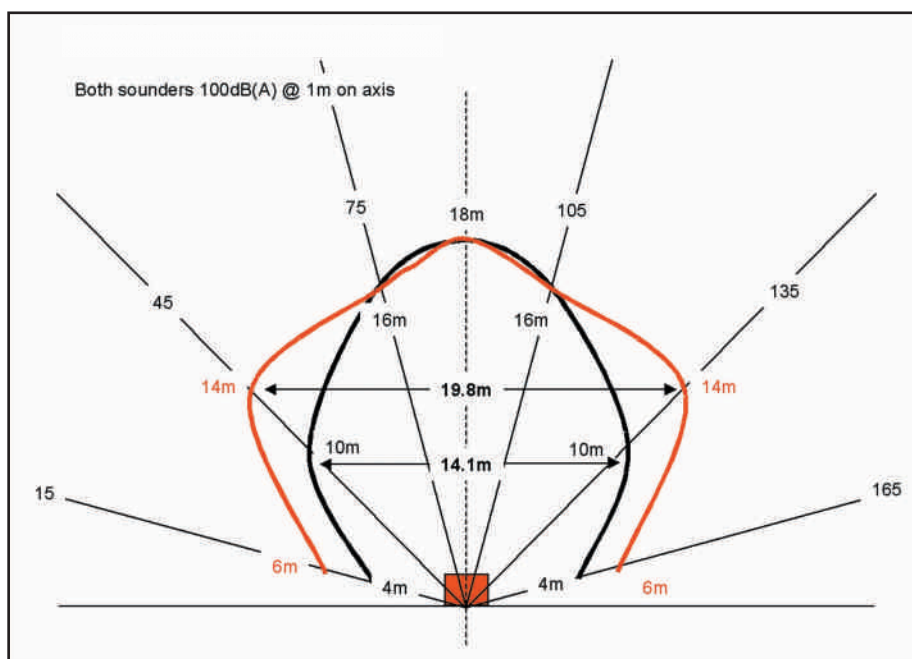

Figure 1. Sounder coverage for 75dB(A)
- Frequently ignored is the fact that sounders do not radiate sound equally in all directions, and that this directionality will vary from type to type. Figure 1 shows the pattern for two different sounders each with an on-axis output of 100dB(A) at 1m and set to the same tone. The contours trace the location where the sound